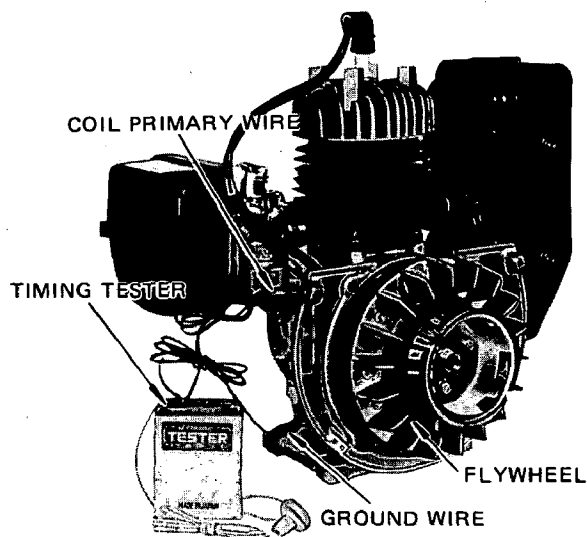

Fig. 7-3-3
With the Model EC05-2, 07-2, 10, 17 and 25-2 engines, the spark is timed to occur  $18^{\circ} \sim 23^{\circ}$  before the position reaches TDC on the compression stroke. This spark advance of  $18^{\circ} \sim 23^{\circ}$  is controlled by the breaker point opening and this advance is obtained when the breaker point opening is adjusted according to the BREAKER POINT ADJUSTMENT to its proper point opening. However, the advance timing is more accurately adjusted through the following procedures using a timing light as shown in Fig. 7-3-3.
- 3) Connect the timing tester lead with red rubber cap to the coil primary wire and ground the lead with black rubber cap to crankcase. (See Fig. 7-3-3.) While the points are open, the buzzer within tester remains ringing and when the points are closed, the tester remains silent.